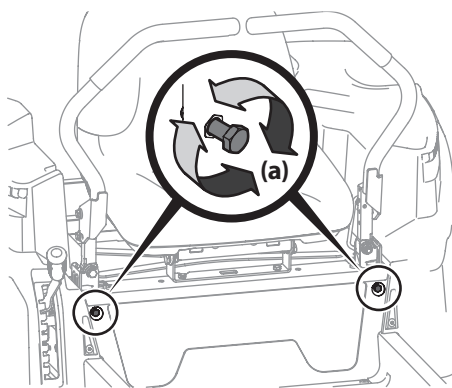

Figure 4-10
- Locate the drive control lever stop adjustment bolts (a) on the front of the seat frame. See Figure 4-10.